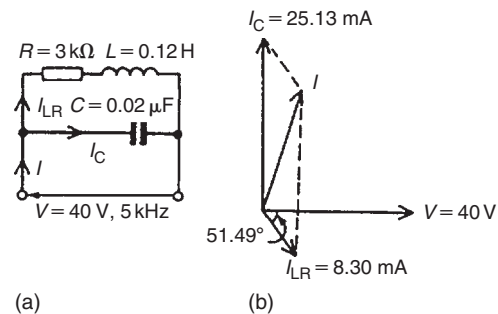

Figure 16.8
The circuit diagram is shown in Fig. 16.8(a).
- are shown in the phasor diagram of Fig. 16.8(b). The parallelogram is completed as shown and the supply current is given by the diagonal of the parallelogram. The current